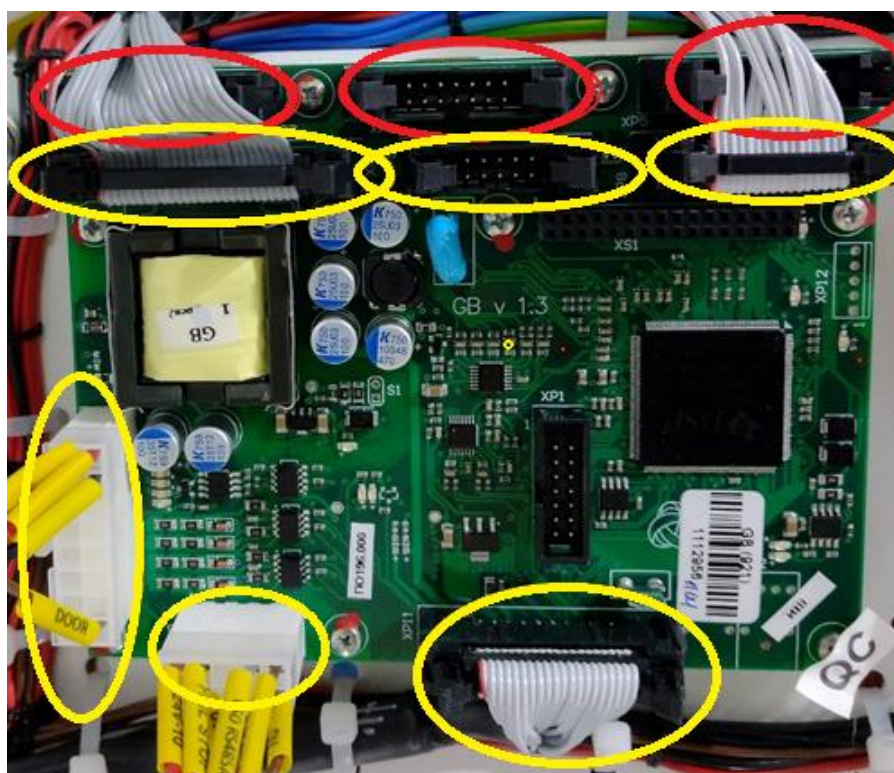

Figure 3 – Unplug connectors of a GB unit
2. Unplug signal connectors (yellow, red) from a terminal blocks which is shown at figure 3.